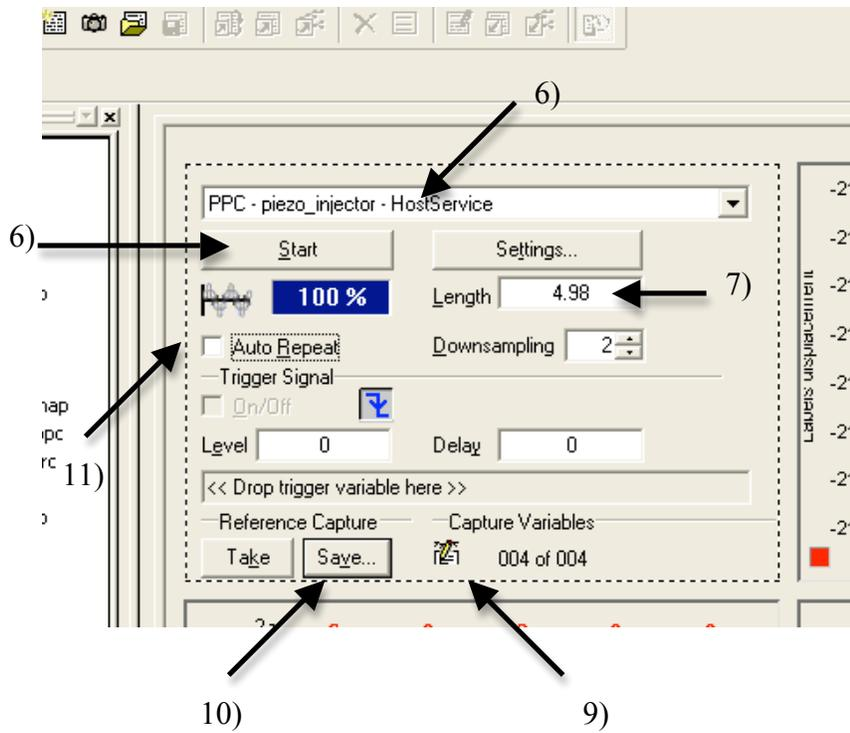

Figure 4-32: Screenshot for steps 6) – 11)
- 6) Make sure that the correct Simulink file name appears in the drop down menu located above the “Start” button. See Figure 4-32.
- 7) To start and stop the simulation from running, click the “Start” button. See Figure 4-32.
- 8) To change the length of time for each portion of testing and data collection, change the value in the area next to “Length”. See Figure 4-32.
- 9) To collect data, make sure the desired “Capture Variables” have been loaded and click the save button. To add a “Capture Variable,” the data recorded during the test, drag the desired variable from menu under the “File Selector” tab at the bottom of the screen to the small icon underneath the “Capture Variables” area. See Figure 4-32.
- 10) To save data, press the “Save” button and then a generic “Save as” window will appear. See Figure 4-32.
- 11) Use the “Auto Repeat” option to select or unselect the data repeating over the span of time chosen in “Length”. See Figure 4-32.